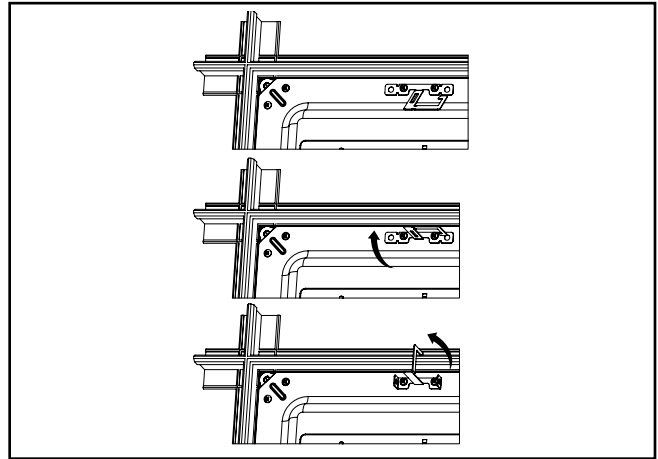

Figure 4.
4. Grid clips are provided for additional retention to ceiling system. Orient 4 tabs on back of fixture over T-GRID by bending tabs up 90 degrees perpendicular to back of fixture. Next bend tabs 90 degrees towards T-GRID frame (Fig. 4).